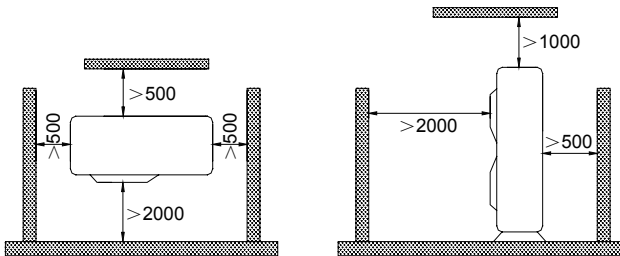

Fig.3
- 5). The installation space of the unit should be as required in Fig.3.